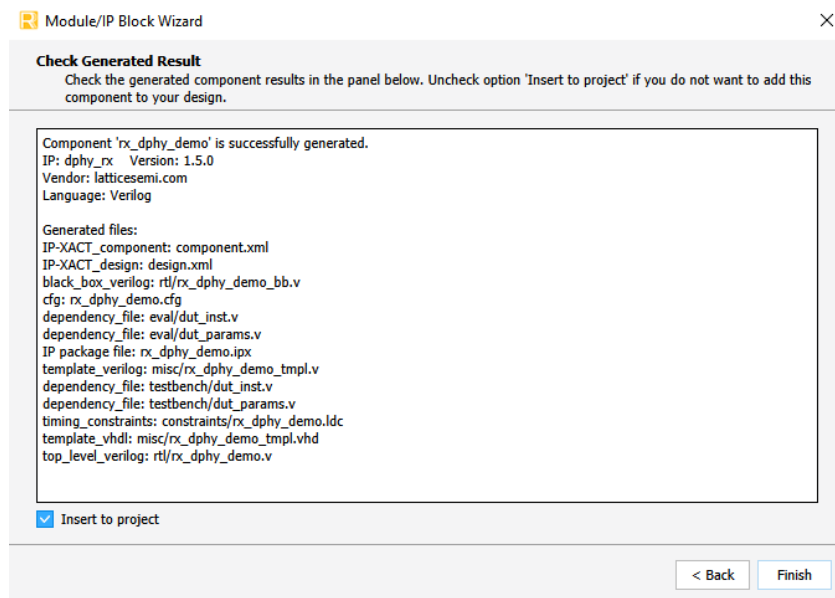

Figure 6.3. Check Generated Result
- Click **Generate**. The **Check Generated Result** dialog box opens, showing design block messages and results as shown in Figure 6.3.